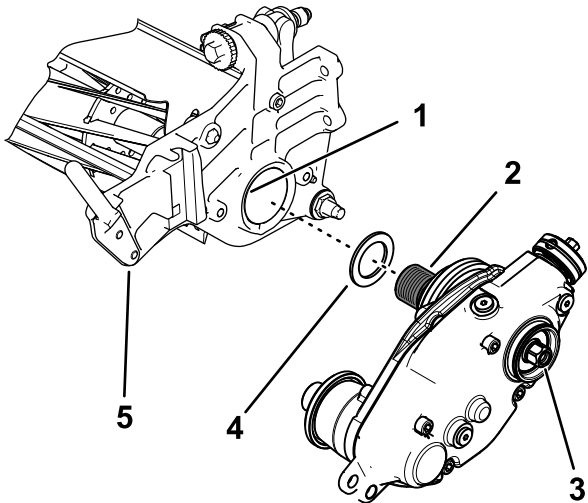

Figure 7
2. Assemble the shim washer over the threads of the reel adapter (Figure 7).
4. Attach the groomer drive box to the reel shaft (Figure 7).
6. While the reel is restrained, torque the hex-head of the drive-box shaft to 135 to 150 N·m (100 to 110 ft-lb); refer to Figure 7.